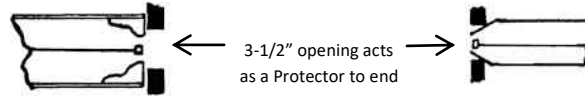

FIG. 1
6. Insert burner blast tube through boiler or furnace casing. Position chamber so that cut opening in chamber and end of blast tube coincide. End cone must not extend into combustion chamber but should be flush or slightly behind the inside face of chamber. (Fig. 1)